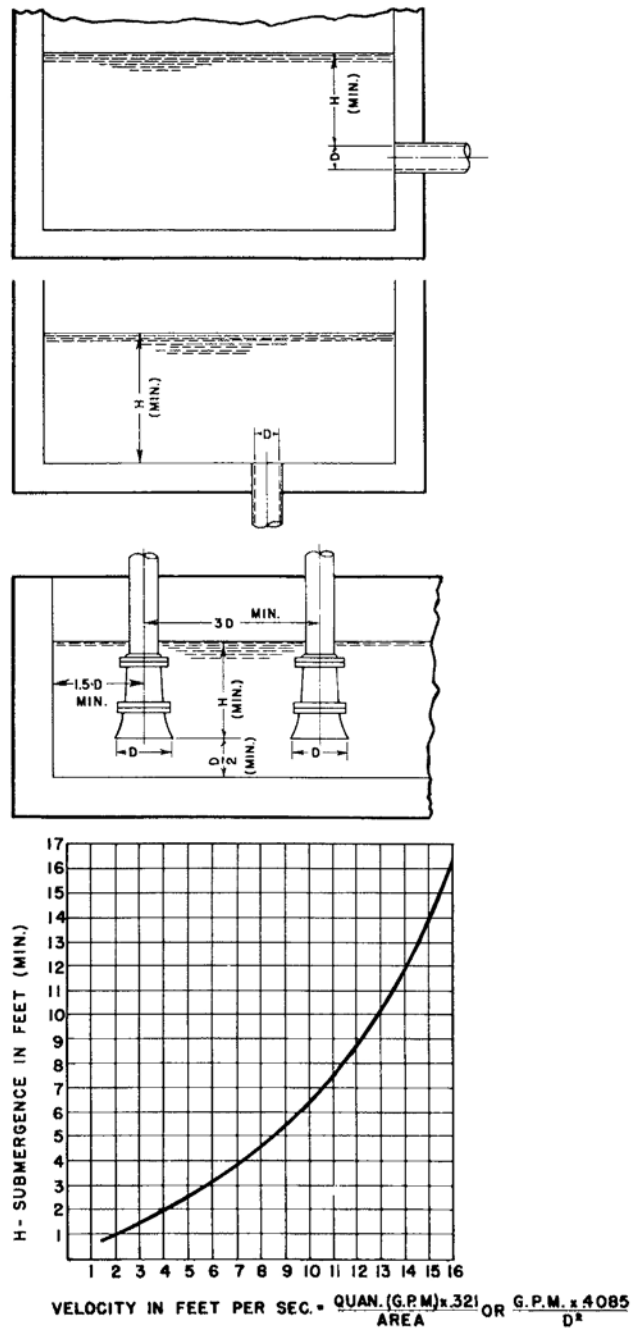

Figure 6:
- The suction pipe should always be submerged into the source of supply as shown in Figure 6: on page 16.
- d) The suction pipe should be below the liquid surface at the source of supply as shown in Figure 6: on page 16.